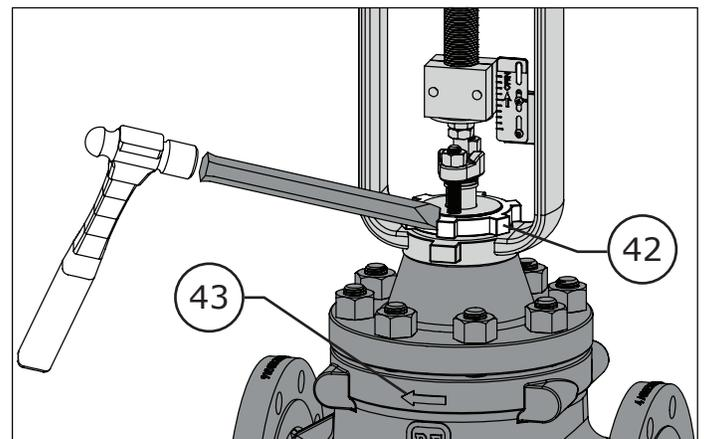

Figure 4 Yoke Nut being loosened with a Chisel
- 6 **For DFC/DFO:** Use a blunted heavy chisel to loosen the yoke nut (Key 42). Unscrew the yoke nut and remove the actuator from the valve. If the actuator was energized during removal, de-energize the actuator (Refer to Figure 4).